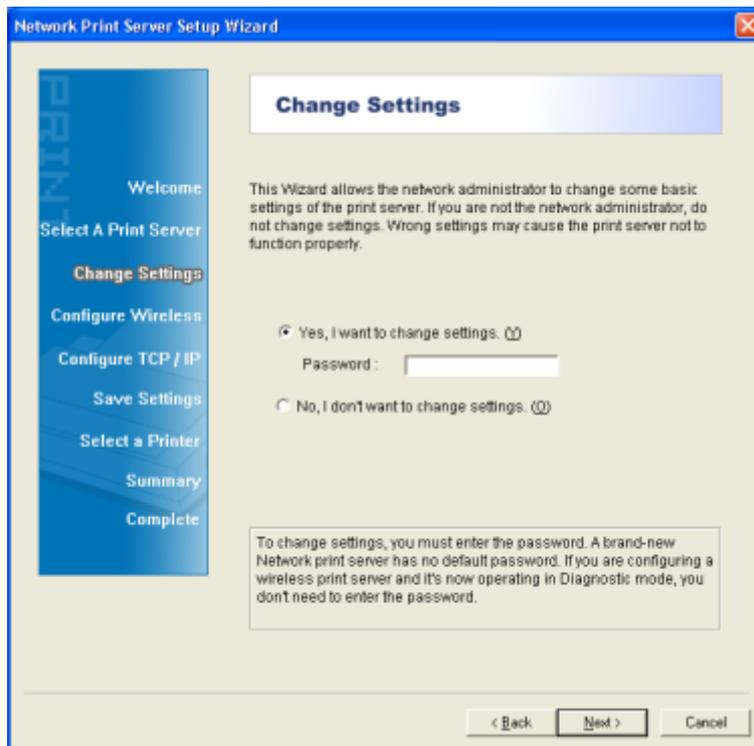

Figure 3-5
5. On the **Change Settings** screen as shown in Figure 3-5, select **Yes** or **No**.